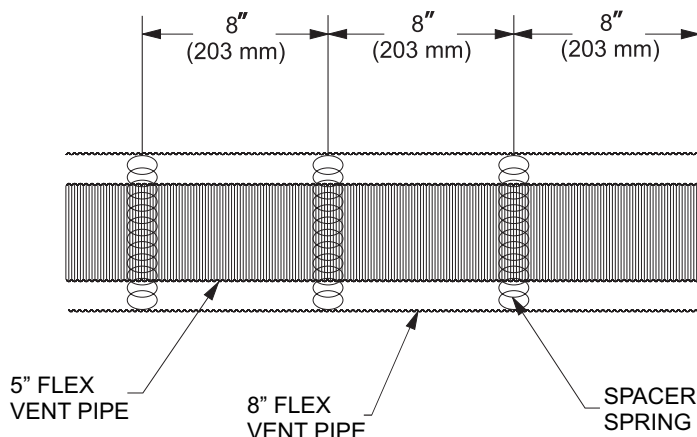

Figure 51
5. Install the Wall Firestop/Thimble assembly as required through the wall. Refer to the venting charts in the fireplace manual to determine the proper height and size of the vent opening. The minimum opening should be 10" wide by 12" high. The minimum combustible clearance from the horizontal vent is 1" from sides and bottom, and 3" above the vent pipe. **See Figure 51.**